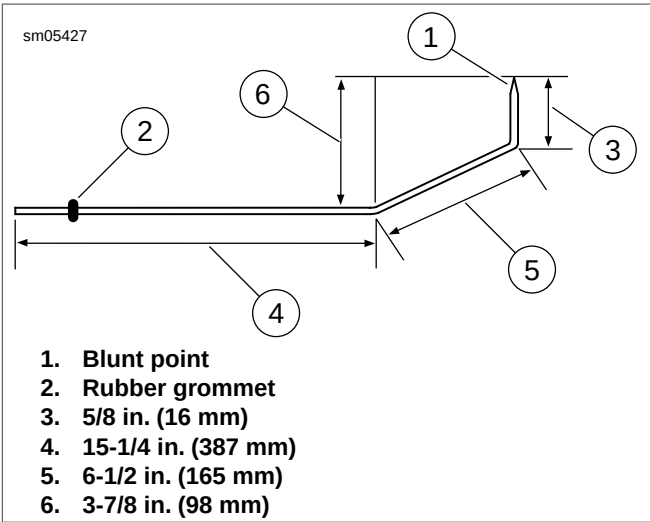

Figure 1-61. Wheel Alignment Tool: XR Models
- 3. **For XR Models:** See Figure 1-61. Fabricate an alignment tool using a piece of 1/8-in. (3.175 mm) diameter aluminum welding rod 22.375 in. (568 mm) long. Grind one end down to a blunt point. Use pliers to bend rod as shown. Place a snug-fitting rubber grommet (2) on rod to act as a slide measurement indicator.